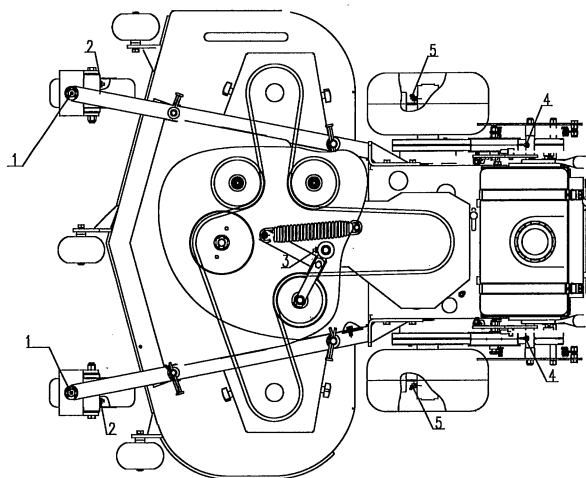

figure 8.
Stop engine, wait for all moving parts to stop, and remove key. See the figure 8.
- Adjust anti-scalp rollers for Normal Operating Conditions. Stop engine, wait for all moving parts to stop, and remove key. Place rollers in one of the Position shown in Figure 8. Rollers will maintain 3/4 in. (19mm) clearance to the ground to minimize gouging and roller wear or damage. For Maximum Deck Flotation, place rollers one hole position lower. Rollers should maintain 1/4 in. (6.4mm) minimum clearance to ground. Do